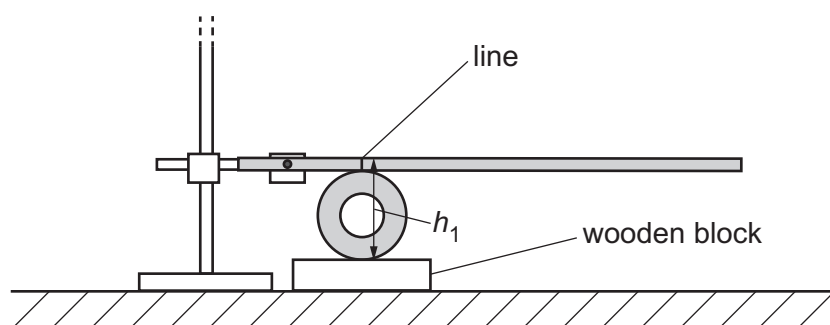

Fig. 2.3
- (b) • Position the ring under the line on the rod and centrally on the wooden block, as shown in Fig. 2.3.
- The vertical distance, next to the ring, of the top of the rod above the block is h_1 , as shown in Fig. 2.3. mm.